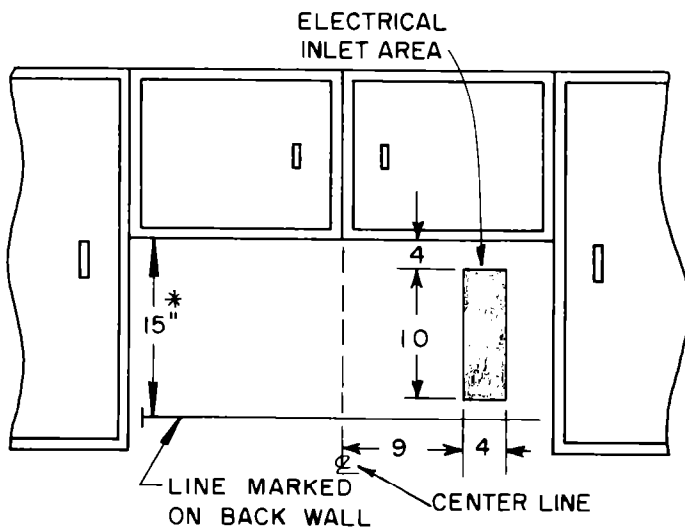
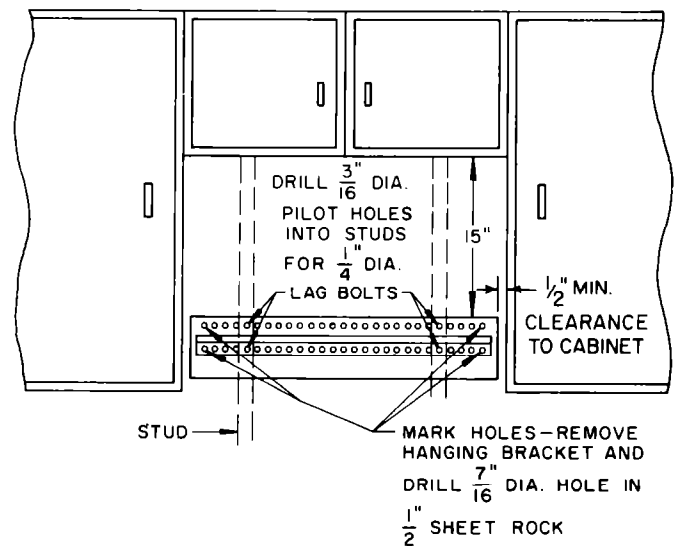

Figure 3
Figure 4
1. Select the area for installation, making sure you have an electrical supply available. See the shaded area in Figure 3. This is the area the electrical supply must enter.
3. Mark a line on the back wall 15" down from the upper cabinets 30" long centered between the side cabinets or allotted space. See Figure 3.
NOTE: If 2 studs are not located on the line drawn in Figure 3, **DO NOT** attempt to install the shelf hood.
5. Line the top of the hanging bracket up with the line drawn on the wall in Figure 3. Move the bracket to the left or right within the allotted 30" space until the center line of the 2 studs line up with 4 holes in the hanging bracket. Neither edge of the bracket should be closer than 1/2" to the side cabinets or the end of the 30" allotted space. (See Figure 4).
13. Rough wire the electrical supply to the area shown in Figure 3.